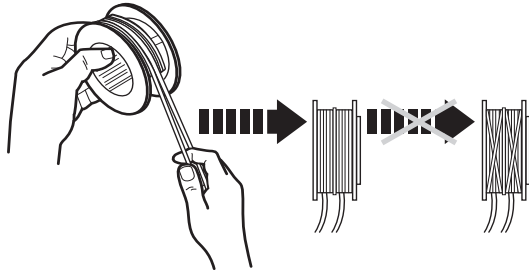

Fig.16d
- > Wind the two parts of the trimming line in clockwise direction firmly around the spool. Ensure each part of the line is either side of the guide on the spool (Fig. 16d).